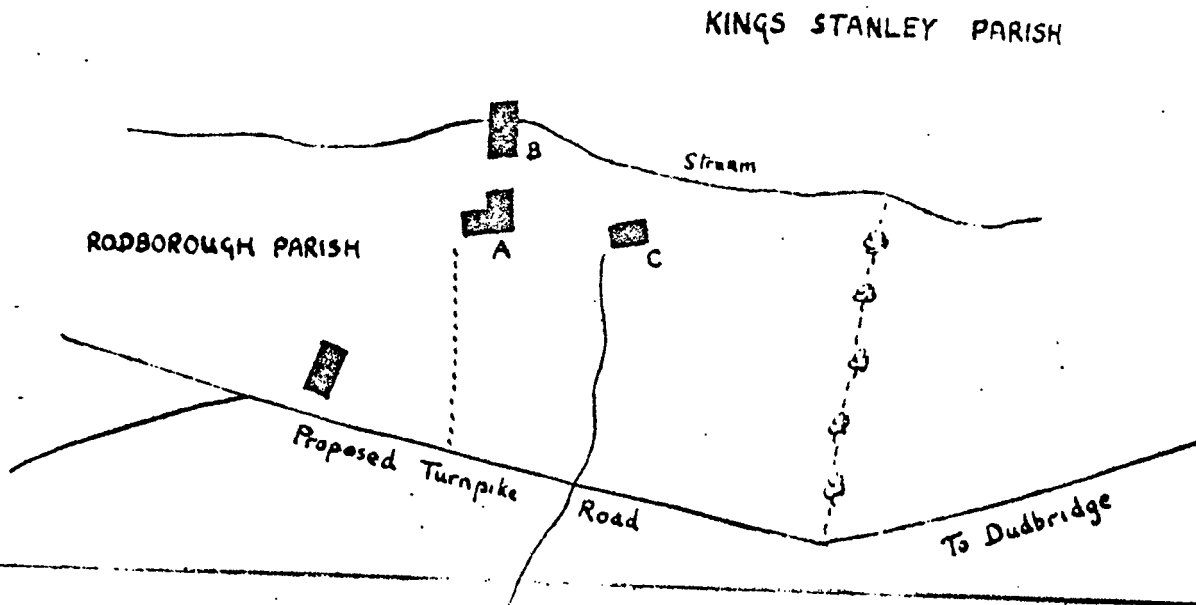

Fig. 1.
No information has yet been found describing the mills during the century following Richard's death, but in 1780 we have the plan of the Dudbridge-Nailsworth-Tiltup's End Turnpike which shows (Fig. 1) a group of four buildings, one the L-shaped house (A) and another clearly a mill (B) straddling the main stream which here forms the Rodborough - Kings Stanley parish boundary. It is probable that (C) standing on the minor stream was a second mill. This stream is very small but several points suggest its having been used for power, firstly the location of a building on the stream in the Turnpike map, secondly the stress laid, in deeds over many years, on the mill owners rights over this stream even after the land it traverses had been sold away, and thirdly the later existence of a mill sited across this stream fed in a somewhat awkward manner by water from the main stream strongly suggests a development from an earlier mill using the Rodborough water.